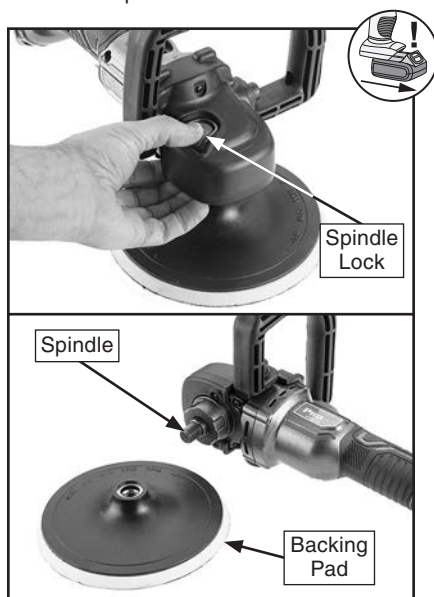

Figure 18. Removing backing pad.
2. Press spindle lock button while turning backing pad clockwise (see **Figure 18**). Backing pad will spin free of spindle.